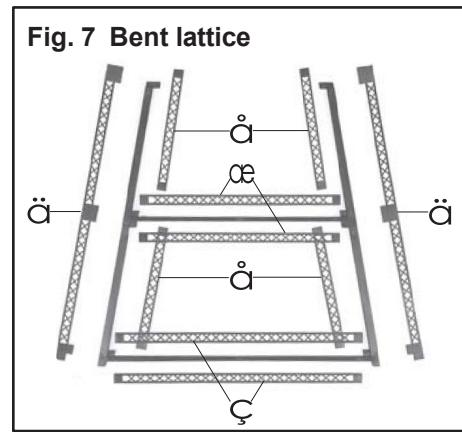

Fig. 7 Bent lattice
4. Cement the outside bent lattice, parts (3) to the bent assembly. Figure 7 shows their general position. (For clarity, the parts are shown flat in figure 7, they would actually be on edge if cemented to the bent halves.) Note that the gusset plate extensions of parts (3) have been trimmed for left-hand and right-hand parts.
5. Cement the inside bent lattice parts (4) to the bent assembly. Figure 7 shows their general position.
struts of the bent assembly. Figure 7 shows their general position.